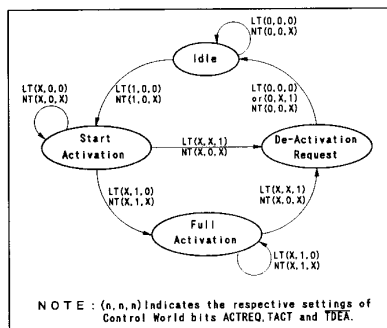

Fig. 4
Fig. 4 shows the state machine diagram of the activation/deactivation process. The transition from the Full Reset state to Full Activation involves 1) echo canceller (EC) training and convergence; 2) AGC, DPLL and DFE convergence; 3) SW/ISW synchronization. Full activation is achieved by a call request from LT or TE or by Power on Activation Request after reset. Once the U-Interface achieves full activation, the coefficient values for the various filters, and taps of DFE, echo canceller and others are stored on-chip. These stored values can be used for subsequent "warm-start" activation. The warm-start activation is quicker (< 300 ms) than initial "cold start" activation because the filter convergence process is bypassed using the stored values. The AK520S performs warm-start activation whenever possible, unless Cold Start Only is selected (CSO = 1).